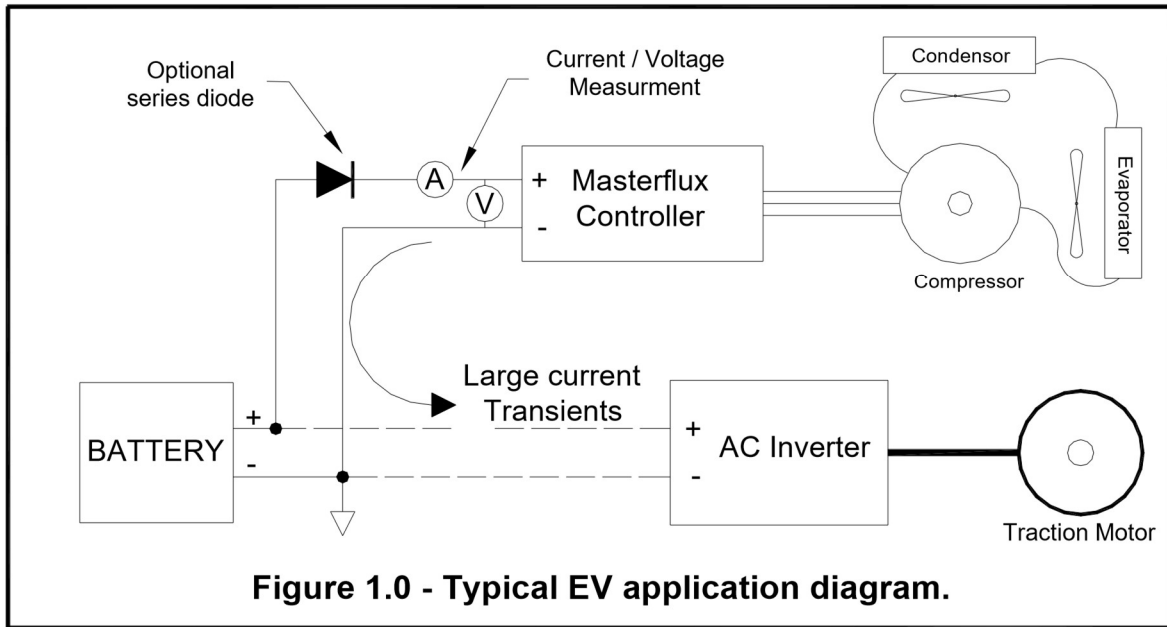

Figure 1.0 - Typical EV application diagram.
- Optional series diode to stop discharge of capacitors. (see figure 1.0) ◦